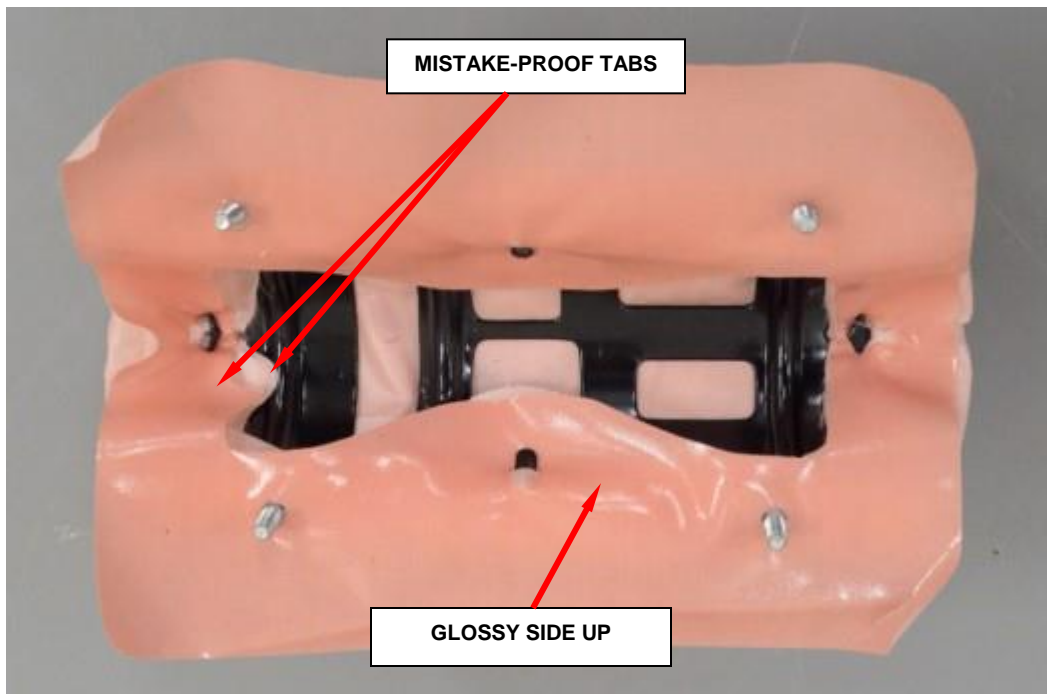

Figure 124 – Fabric Gasket to Cushion (Glossy Side Up)
- i. Place the fabric gasket, glossy side up, onto cushion. Mistake-proof tab should be aligned to the tab on the cushion (Figure 124).